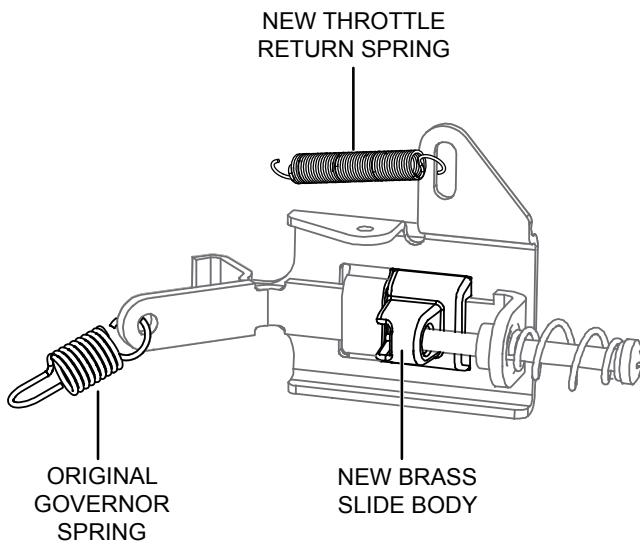

Figure 11. New Slide Body (Brass)
- If not attached, connect new throttle return spring (Figure 11) through hole opening on slide body bracket.